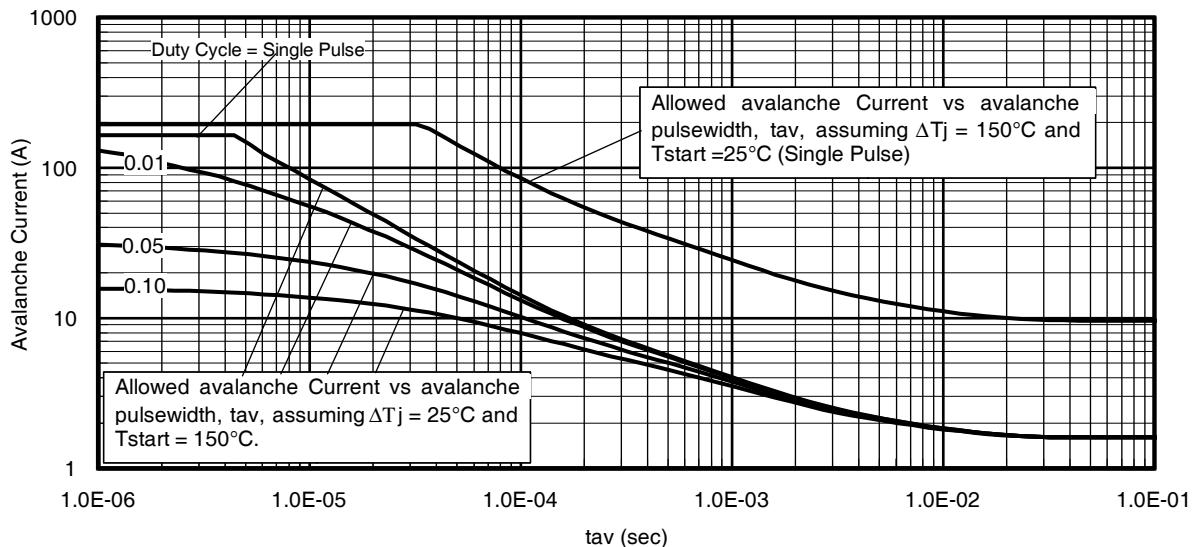

Fig 14. Typical Avalanche Current vs.Pulsewidth
- ① Calculated continuous current based on maximum allowable junction temperature Bond wire current limit is 195A. Note that current limitation arising from heating of the device leads may occur with some lead mounting arrangements.
- ② Repetitive rating; pulse width limited by max. junction temperature.
- ③ Limited by T_{Jmax} , starting $T_J = 25^\circ\text{C}$, $L = 0.021\text{mH}$ $R_G = 25\Omega$, $I_{AS} = 165\text{A}$, $V_{GS} = 10V$. Part not recommended for use above this value.
- ④ $I_{SD} \leq 165\text{A}$, $\text{di/dt} \leq 430\text{A}/\mu\text{s}$, $V_{DD} \leq V_{(BR)DSS}$, $T_J \leq 175^\circ\text{C}$.
- ⑤ Pulse width $\leq 400\mu\text{s}$; duty cycle $\leq 2\%$.
- ⑥ $C_{oss \text{ eff. (TR)}}$ is a fixed capacitance that gives the same charging time as C_{oss} while V_{DS} is rising from 0 to 80% V_{DSS} .
- ⑦ $C_{oss \text{ eff. (ER)}}$ is a fixed capacitance that gives the same energy as C_{oss} while V_{DS} is rising from 0 to 80% V_{DSS} .
- ⑧ When mounted on 1" square PCB (FR-4 or G-10 Material). For recommended footprint and soldering technique refer to application note # AN- 994 techniques refer to application note #AN-994.
- ⑨ R_θ is measured at T_J approximately 90°C .
- ⑩ Limited by T_{Jmax} , see Fig. 14, 15, 22a, 22b for typical repetitive avalanche performance.
- ⑪ $R_{\theta JC}$ value shown is at time zero.
Notes on Repetitive Avalanche Curves , Figures 14, 15:
7. ΔT = Allowable rise in junction temperature, not to exceed T_{jmax} (assumed as $25^{\circ}C$ in Figure 14, 15).